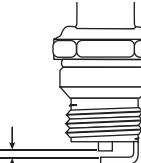

Fig. 25
1. Stop the engine and allow it to cool. Remove the six (6) screws on the back of the engine cover with a Flat-head or T-25 Torx screwdriver (Fig. 25).
4. Replace cracked, fouled or dirty spark plug. Set the air gap at **.0025 in. (0.635 mm)** using a feeler gauge (Fig. 25).